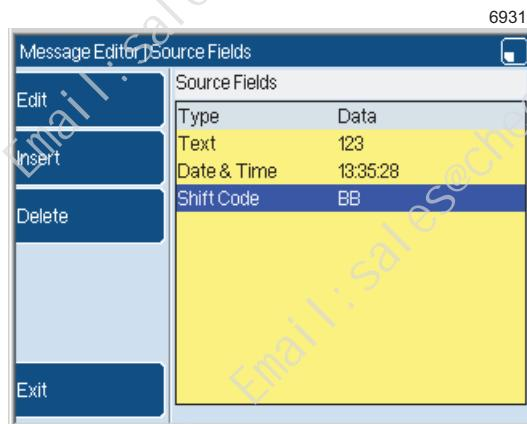

Figure 17. Source Fields page: three fields
- 12** Press the **Insert** key to insert another field if necessary. For example in Figure 17 the encoded field has three source fields.